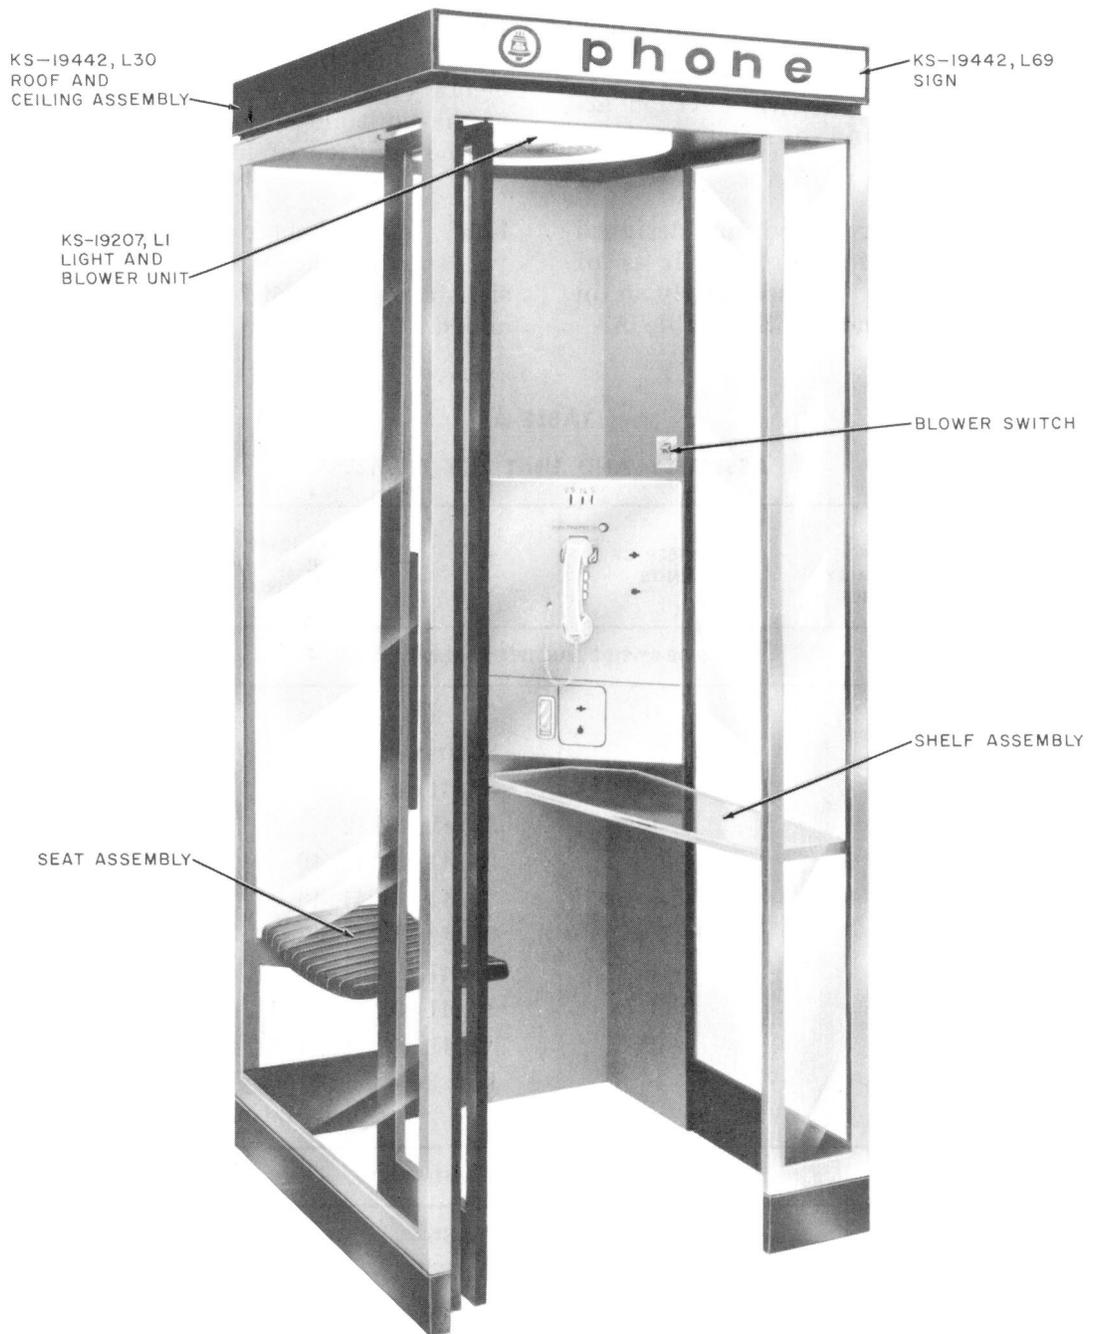

Fig. 1 — KS-19442 Deluxe Telephone Booth
1.02 This booth is a deluxe type unit designed for sit-down service (Fig. 1). It is of metal and glass and may be used singly or in various multiple arrangements. See Table A.
2.05 A formed plastic seat and a thick tempered-glass writing shelf (Fig. 1) are furnished as part of the booth. Stainless steel panels are mounted in the right rear corner. These panels provide a mounting for the backboards for a 1A, 2A, or 235G-type coin telephone. See Table B.
2.06 A KS-19207, List 1 light and blower unit (furnished as part of the List 30 roof and ceiling assembly) is supplied with each booth for ventilation and illumination. A door-operated snap switch is used to control the light and blower; however, the unit may be wired for continuous illumination. A manual switch is provided for customer control of the blower (Fig. 1). See Section 508-820-100 for details of KS-19207 light and blower unit.